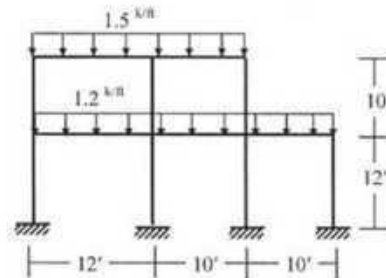

Fig. 2
2. For the 2-storied frame structure loaded as shown in Fig. 2, use the approximate location of hinges to draw the SFD and BMD of the beams and columns. Assume equal  $I$  for all columns.